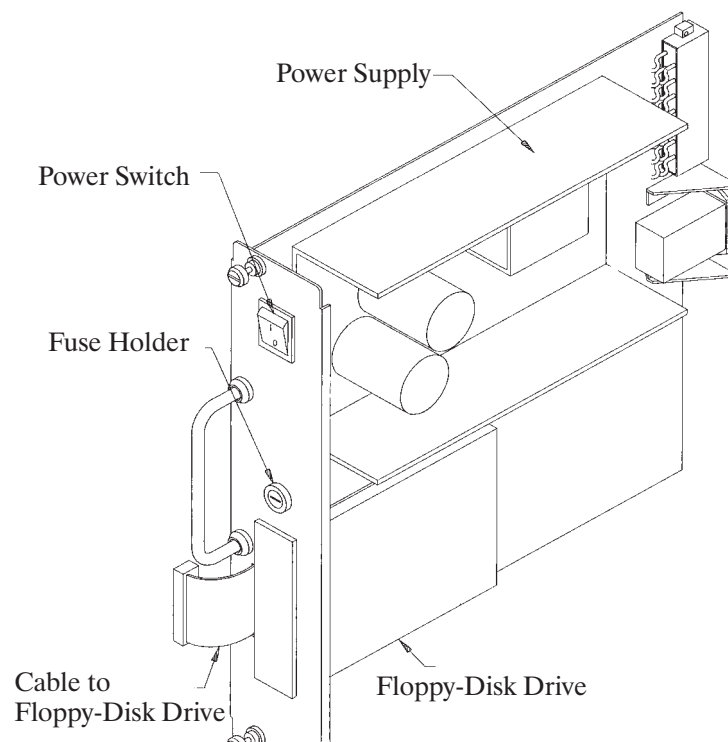

Figure 9-19 Octel Overture 200 Power Supply Unit
- For the Octel Overture 200, the power supply and floppy-disk drive are part of the power supply unit. If either the power supply or floppy-disk drive malfunctions, you must replace the entire unit. The instructions used to remove and install the power supply are the same instructions used to replace an Octel Overture 200 floppy-disk drive. Figure 9-19 shows the power supply unit for an Octel Overture 200.